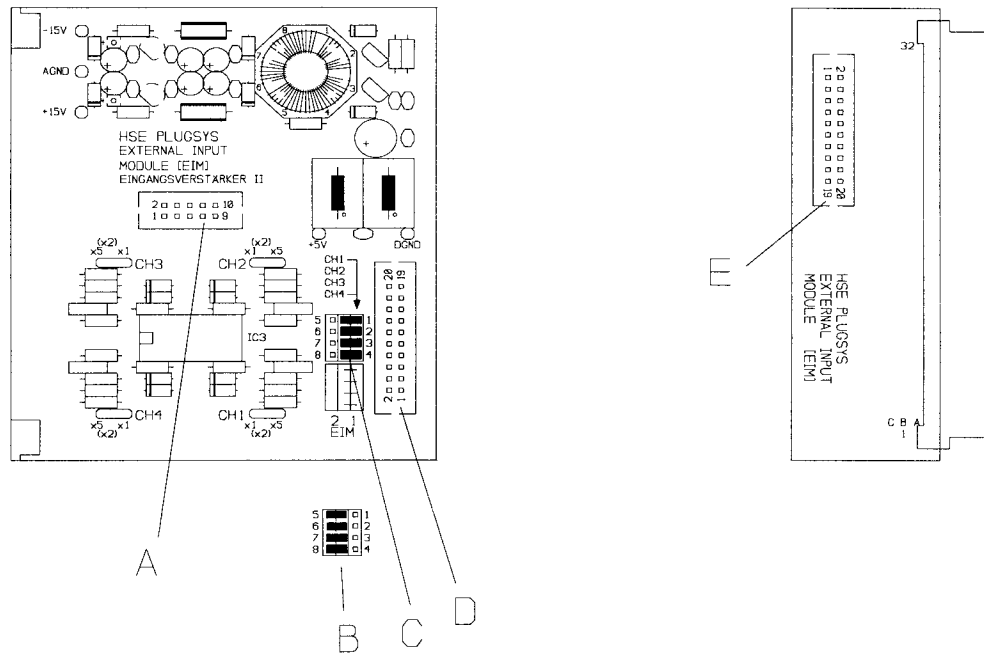

Fig. 7: Extra card 1
The connection of the rear-mounted EIM-B to the system bus and the front-mounted EIM-A is provided by the X-lines of the PLUGSYS system bus. A maximum of 8 X-lines are available, of which four are used for each EIM-B. The X-lines X1 to X4 should be used for the first EIM-B (Fig. 7 **C**), the X-lines X5 to X8 (Fig. 7 **B**) for the second EIM-B.
- (1) Switch off the unit, pull out the mains plug !
- (2) Release the top and bottom fixing screws on modules EIM-A and EIM-B, remove the screws and pull the modules out of the housing.
- (3) Separate the module EIM-B from the EIM-A by pulling of the connecting cable.
- (4) Screw the front panel of the EIM-B on the extra card 1 and connect the link cable to the connector (Fig. 7 **A**); observe the correct polarity (1 on the connector is marked with an arrow).
- (5) Position the jumpers according to Section 11.1.
- (6) Link the two extra cards with the ribbon cable supplied (Fig. 7 **D** with **E**). Observe the correct polarity.
- (7) Unscrew the blank panels on the back of the rack housing.
- (8) Plug the extra card 2 from the back on an unused connector of the bus board.
- (9) Fit the front panel of the EIM-B with the fixing screws.
- (10) Screw the blank panels on the rear back into position.
- (11) On the module EIM-A place the jumpers on the connector J5 from BU1 - BU4 to X1 - X4. When installing a second EIM-B place the jumpers from BU1 - BU4 to X5 - X8.
- (12) Insert the EIM-A into the housing and screw the front panel into position. Then screw the blank panels back into position.